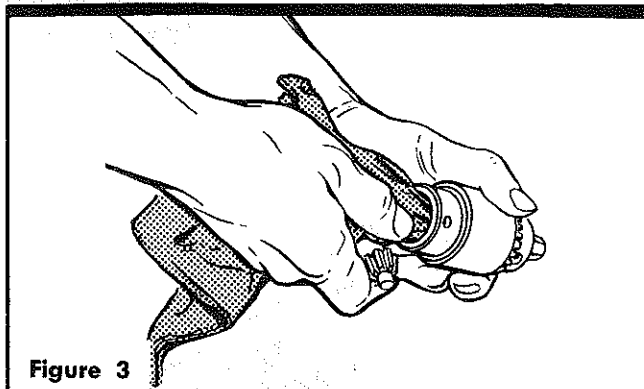

Figure 3
5. Clean the spindle taper and tapered socket in chuck body with a clean cloth (See figure 3). Make sure no foreign particles are left on these tapered surfaces which would prevent proper seating of the parts.